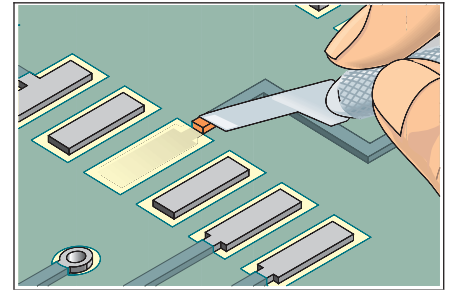

Figure 1 Remove pad.
2. Remove the defective pad and a short length of the connecting conductor. (See Figure 1.)